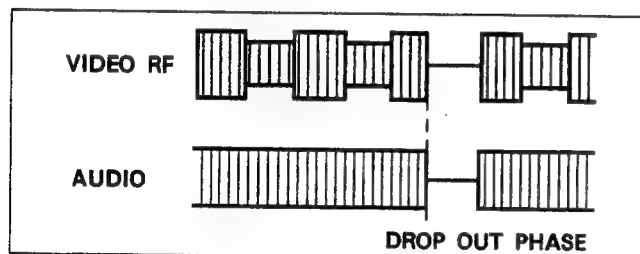
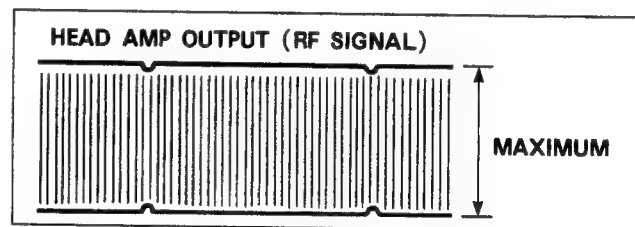

Figure M29
Figure M30
3. Adjust the A/C head horizontal position screw so that the phase of audio drop out and video RF envelope drop-out becomes the same as shown in Figure M29
4. Adjust the Horizontal Position Screw (Figure M29) of A/C head so that the RF signal becomes maximum level as shown in Figure M30.